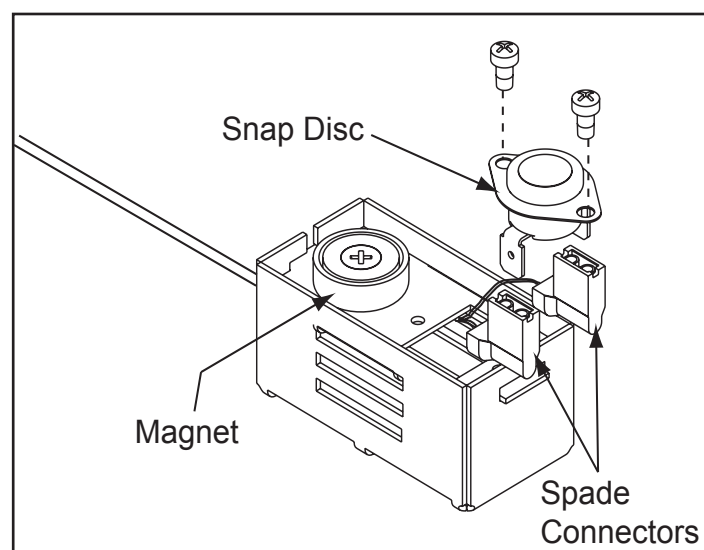

Figure 21.2
3. Pull the snap disc and spade connectors up and out of bracket as shown in **Figure 21.2.**